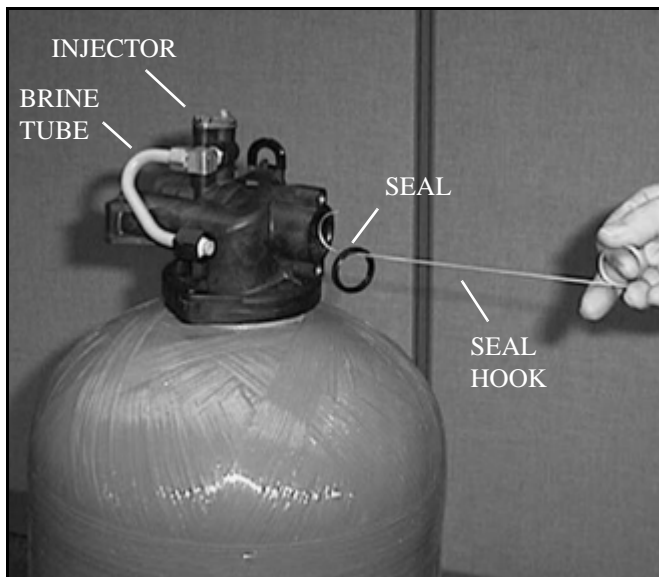

Figure 2 *Removing Special Tool From Valve Body After Inserting Seal*
6. Remove the seal first using the wire hook with the finger loop (see Fig.2).